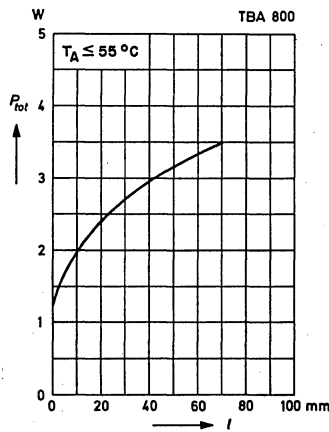
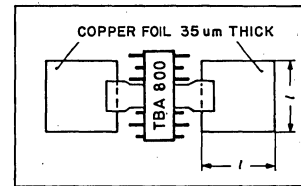

Fig. 9—Total power dissipation versus heat sink length (square heat-sink) for  $T_{amb} \leq 55^\circ\text{C}$  (See Fig. 16)
Fig. 16
The side heat tabs help to ensure that the maximum junction temperature of 150°C is not exceeded. These tabs alone, suffice for output power not exceeding 2.5 watts. However, for high output power extra heat sinking must be provided. For example, the tabs can be soldered to a printed board copper area for heat sinking (Fig. 16) purposes. With a thickness of 35μM the required square side dimension L may be obtained from Fig. 9. This applies for an Tamb=55°C.
2) From Fig. 9, one can obtain the minimum side length of the square heat sink.
From Fig. 9 obtain L=app. 25 mm.
For geometries different from the one of Fig. 16 note that copper areas near the tabs have better efficiency as regards power dissipation. Therefore additional safety factors must be added for worst case designs.
From Fig. 9 it is seen that for TA ≤ 55°C, no extra heat sinks are necessary.